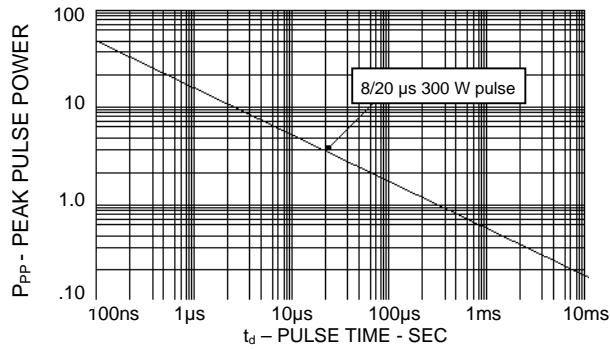

FIGURE 1
- SL03 thru SL24 have a Peak Pulse Power: 300 Watts (8/20 usec, Figure 1)